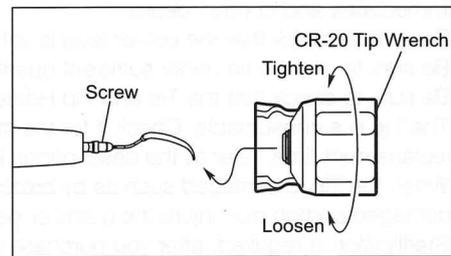

Fig. 3
- 3) Insert the wrench (CR-20 Tip Wrench) from over plastic Tip by drawing the Tip through the wrench hole and aligning the wrench with the screw of the holder (S35) and tighten it until it clicks with a "click." (Fig. 3)